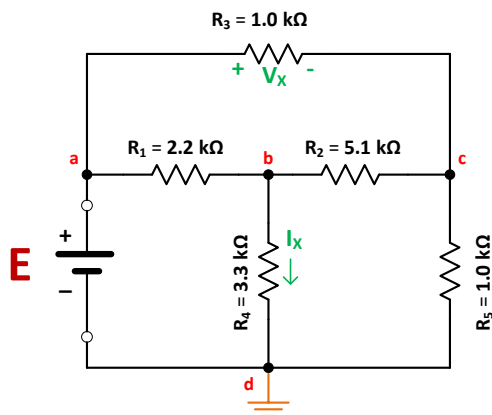

Figure 3.0a: Circuit for *Nodal* Analysis
- (i) **Nodal Analysis:** Select node “d” as a *ground reference node* as shown in **Figure 3.0a**. Using the *nodal analysis* technique, calculate the node voltages **V_a**, **V_b** and **V_c**. Using these calculated node voltages, determine the value of the branch current, **I_x** and the branch voltage, **V_x**. Record all your results in **Table 3.0**.
2. **Nodal Analysis:** Refer to the circuit of **Figure 3.0a**. Use node “**d**” as the ground *reference* node, and measure the node voltages **V_a**, **V_b** and **V_c** with respect to this reference ground. Then measure the branch voltage, **V_x** across resistor, **R₃** and the branch current, **I_x** through resistor, **R₂**.